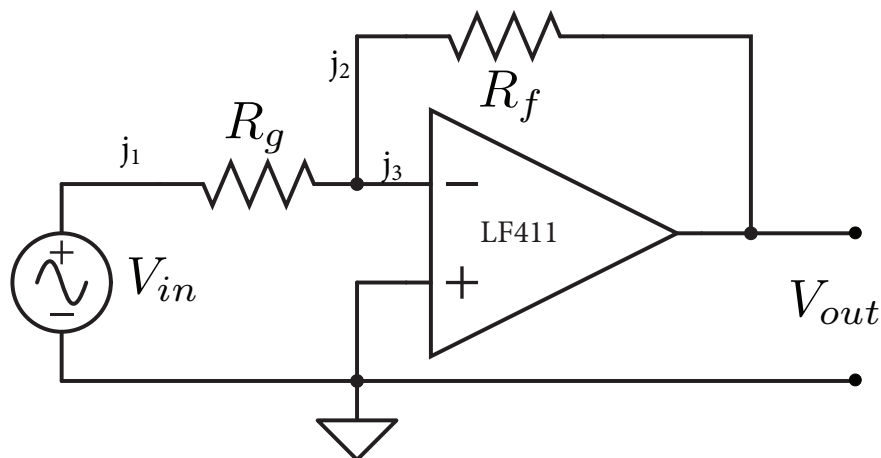

Figure 3: Inverting amplifier
**Golden rule # 1:** As long as there is a feedback resistor installed appropriately between the Negative input and the output, for example as shown in Fig. 3, the Op-Amp will adjust  $V_{out}$  so that  $V_+ = V_-$ .
A simple inverting amplifier circuit is shown in Fig. 3. Assuming the Op-Amp is treated as ideal, show that closed loop voltage gain:
Construct the circuit shown in Fig. 3. **Important: do not power up the protoboard until you have checked all connections twice! Make sure you and your partner agree that it is set up correctly!** In order not to short any of the pins of the Op-Amp together it must be installed in such a way that all 8 pins are in different columns (e.g. as shown in Fig. 4 where pins 1,2,3 and 4 are in different columns in the upper half of the protoboard and pins 5, 6, 7 and 8 are in different columns of the bottom half of the protoboard). Also note that the LF411 Op-Amp has a small circle imprinted on the top between pins pin 1 and 2 to indicate where the numbering starts and goes counter-clockwise. You can see this if you expand Fig. 4.